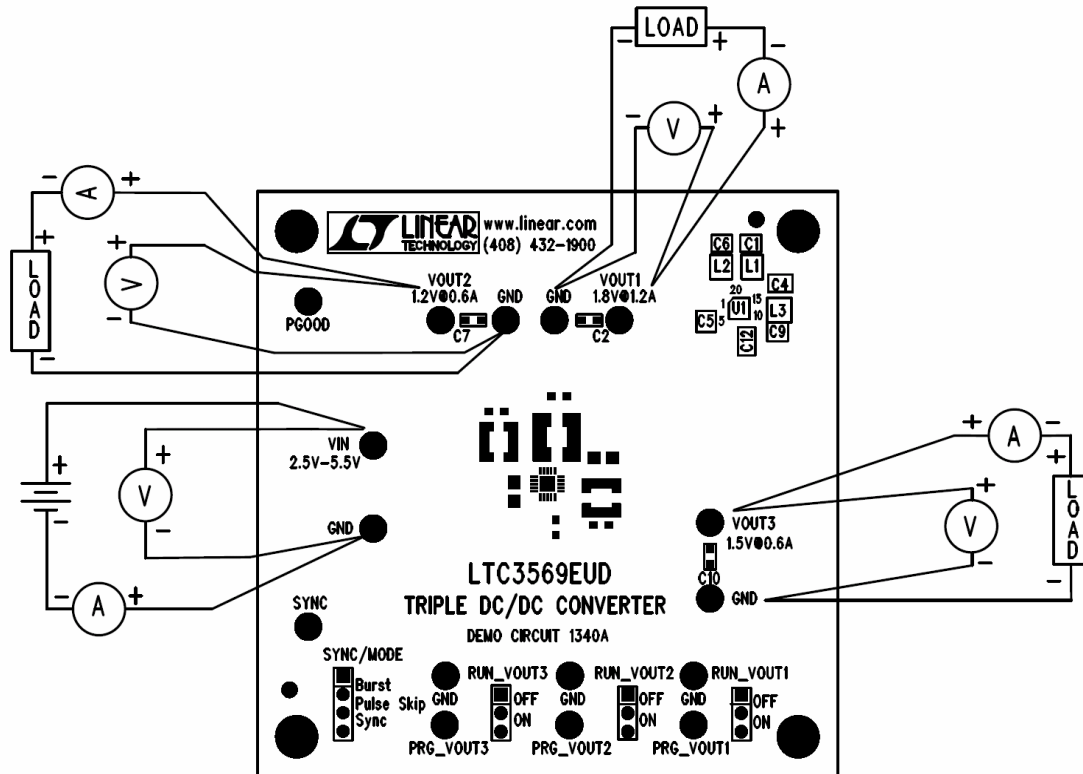

Figure 1. Proper Measurement Equipment Setup
Demonstration Circuit 1340 is easy to set up to evaluate the performance of the LTC3569. For proper measurement equipment configuration, set up the circuit according to the diagram in Figure 1.
1. Connect the input power supply to the VIN and GND terminals. Connect the loads between the matching VOUT and GND terminals. Refer to Figure 1 for the proper measurement equipment setup. Make sure that loads on outputs VOUT 1 does not exceed 1.2A and VOUT2, VOUT3 do not exceed 600mA, on each output (all three outputs can be loaded at the same time)